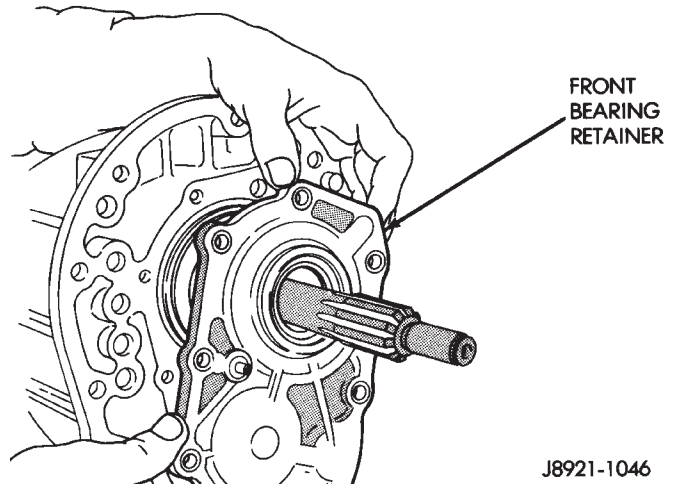

Fig. 29 Remove Front Bearing Retainer
(19) Remove the bolts holding the front bearing retainer to the transmission case.
(20) Remove the bearing retainer from transmission case (Fig. 29).